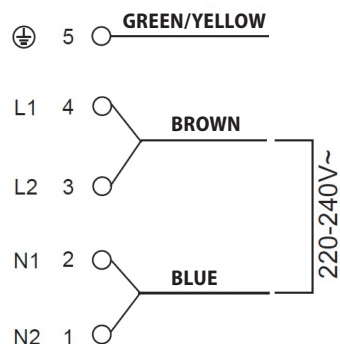

Fig. 11
- The hob is already supplied with a mains cable. In case it is necessary to replace the mains cable due to damage, Fig. 11 or Fig. 12, shows the wiring of the terminal box.